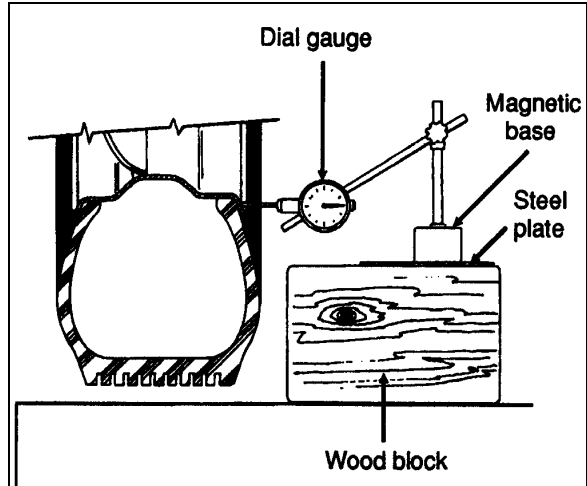

FIGURE 3: DIAL GAUGE INSTALLATION 13008
2. Check wheel lateral run-out. Install a dial gauge as shown in figure 3, then rotate the